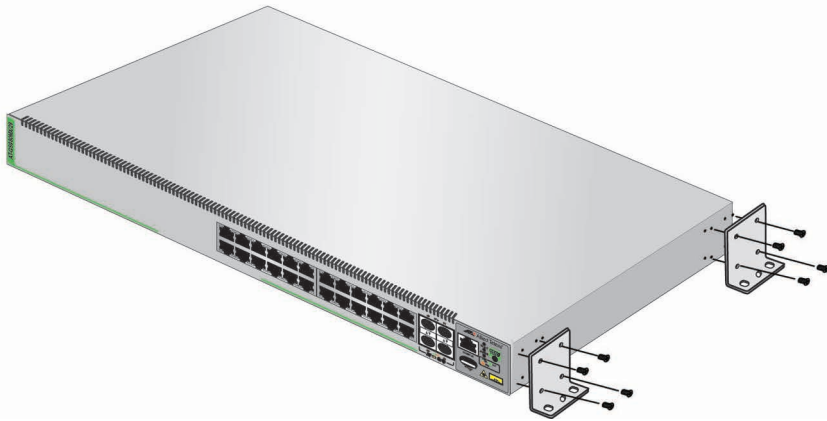
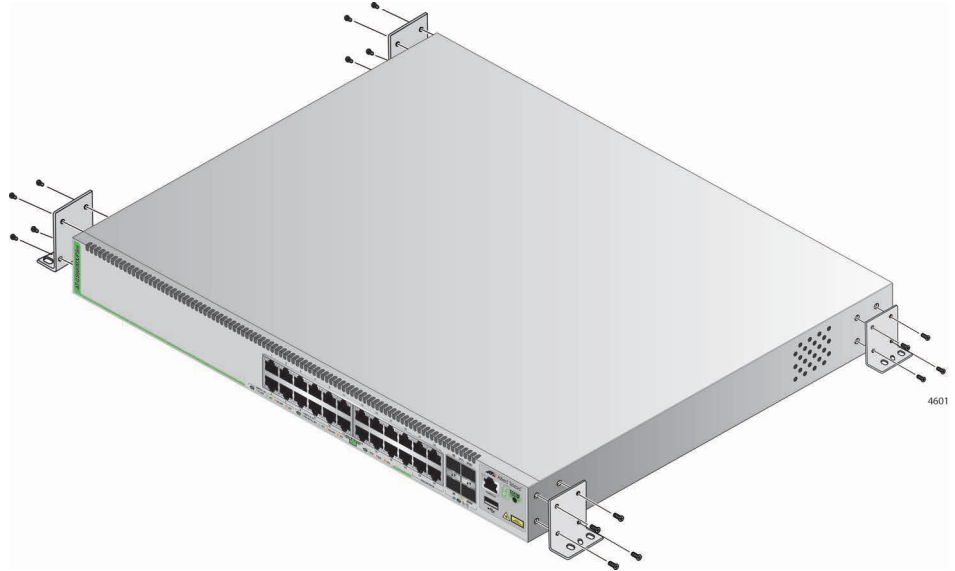

Figure 46. Installing Two Brackets on the AT-GS980MX/28 or AT-GS980MX/28PSm Switch
Figure 47. Installing Four Brackets on the AT-GS980MX/10HSm, AT-GS980MX/18HSm, AT-GS980MX/52 or AT-GS980MX/52PSm Switch
2. For the AT-GS980MX/28 and AT-GS980MX/28PSm switches, install two wall/equipment rack brackets to the sides of the unit with the eight M4x6mm screws included with the switch. Refer to Figure 46 on page 98. For the AT-GS980MX/10HSm, AT-GS980MX/18HSm, AT-GS980MX/52 and AT-GS980MX/52PSm switches, install four wall/equipment rack brackets to the sides of the unit with the sixteen M4x6mm screws included with the switch. Refer to Figure 47 on page 99.
2. For the AT-GS980MX/28 or AT-GS980MX/28PSm Switch, install two wall/equipment rack brackets to the sides of the unit with the eight M4x6mm screws included with the switch. Refer to Figure 46 on page 98. For the AT-GS980MX/10HSm, AT-GS980MX/18HSm, AT-GS980MX/52 or AT-GS980MX/52PSm Switch, install four wall/equipment rack brackets to the sides of the unit with the 16 M4x6mm screws included with the switch. Refer to Figure 47 on page 99.